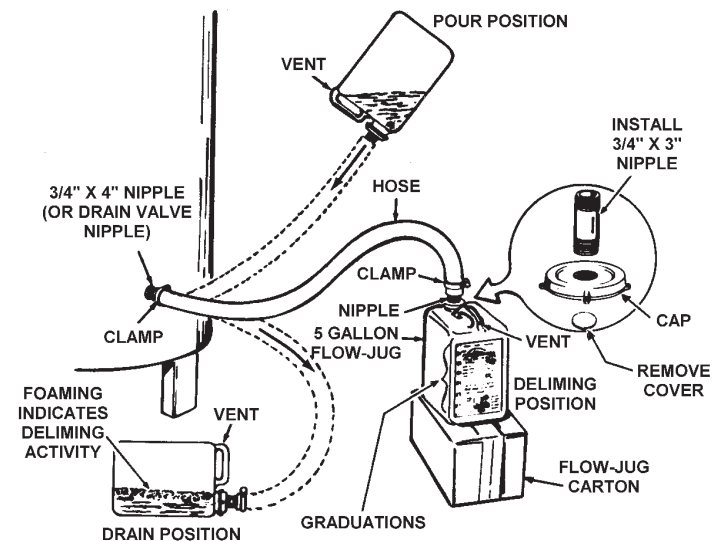

FIGURE 9.
6. Lift container to the "Pour" Position, see Figure 9, being careful to keep the vent in the handle above the liquid level and pour the UN•LIME into the heater.
8. Let UN•LIME remain in the heater for 5 minutes and then lower the container to the "Drain" Position, see Figure 9.